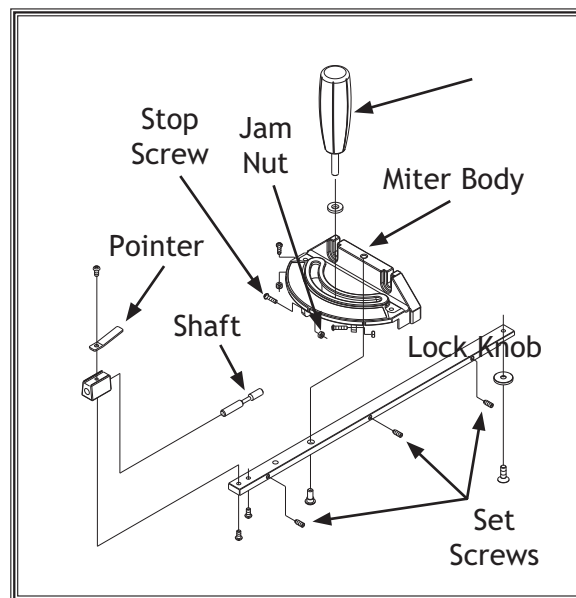

Figure 77. Miter gauge diagram.
2. Push in the shaft (**Figure 77**).
5. Loosen the jam nut with an 8mm wrench and adjust the stop screw until it is seated against the shaft (see **Figure 77** for part locations), then tighten the jam nut.
9. To fit the miter bar tighter in the miter slot, turn the adjustment set screws shown in **Figure 77** clockwise in small increments with a 2.5mm hex wrench, and test fit between adjustments until the miter gauge fits your expectations.